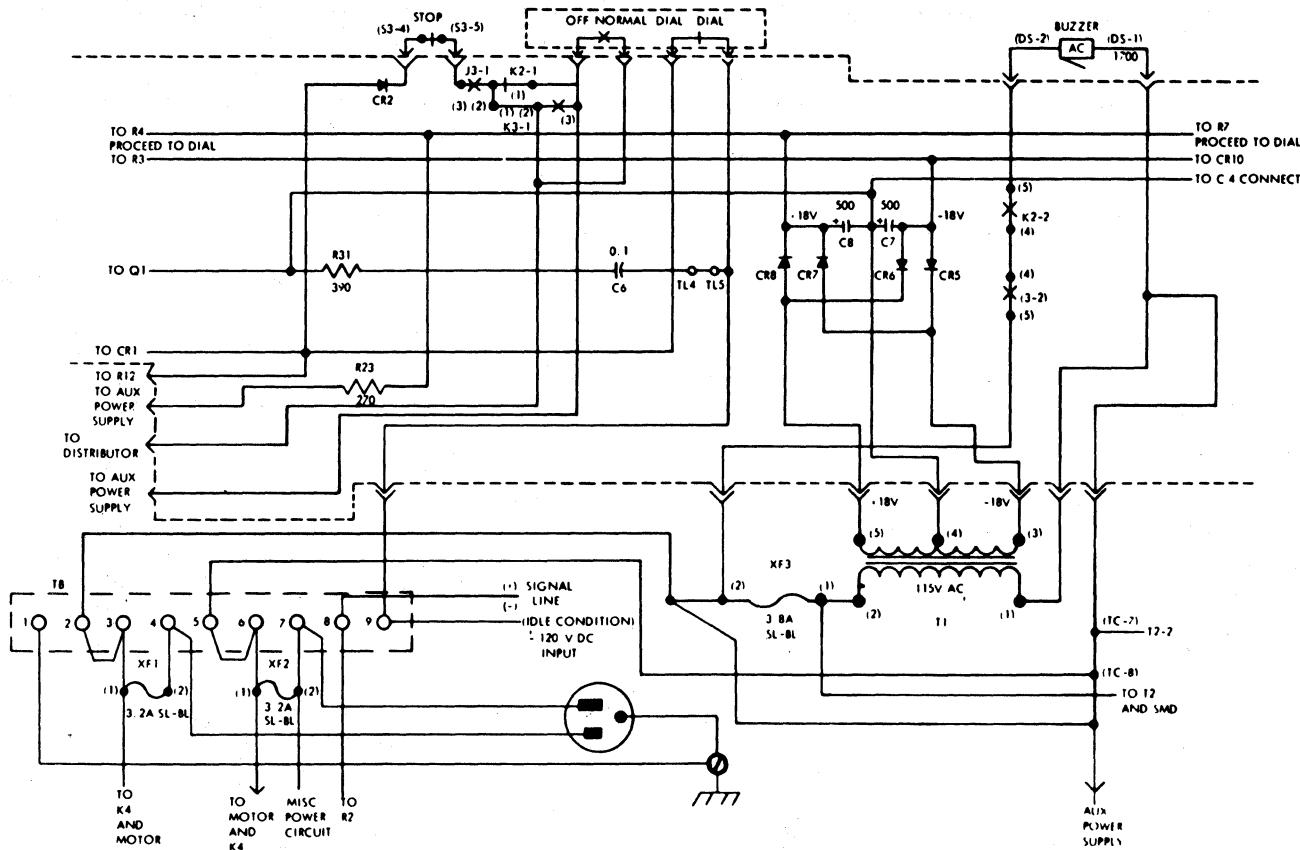

Figure 1 - Power Supply Circuit
3.02 A fused power supply circuit (Figure 1), operates on 117 volts ac  $\pm 10$  percent at 60 hertz  $\pm 1/2$  hertz, and a power input of 12 watts. The power supply ground is floating with respect to the input signal line; that is, it is not at earth ground. Therefore, the center tap of the transformer is +120 volts from earth ground in neutral signaling. The polar adapter, on teletypewriters so equipped, also contains a power supply. This power supply, as well as the one found on the call control unit, uses an earth ground.